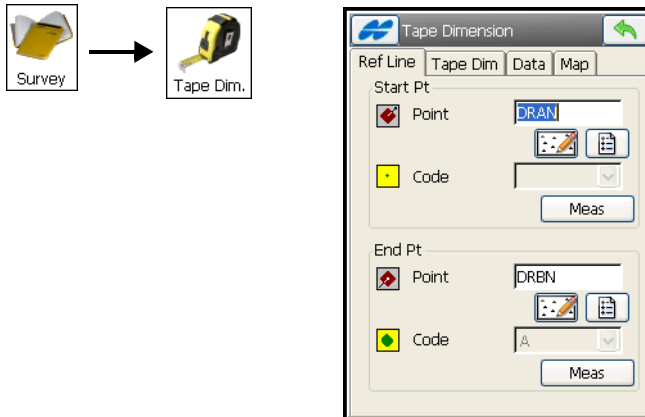

Figure 8-55. Tape Dimension – Ref Line Tab
1. To start working, tap **Survey ► Tape Dimension** (Figure 8-55).